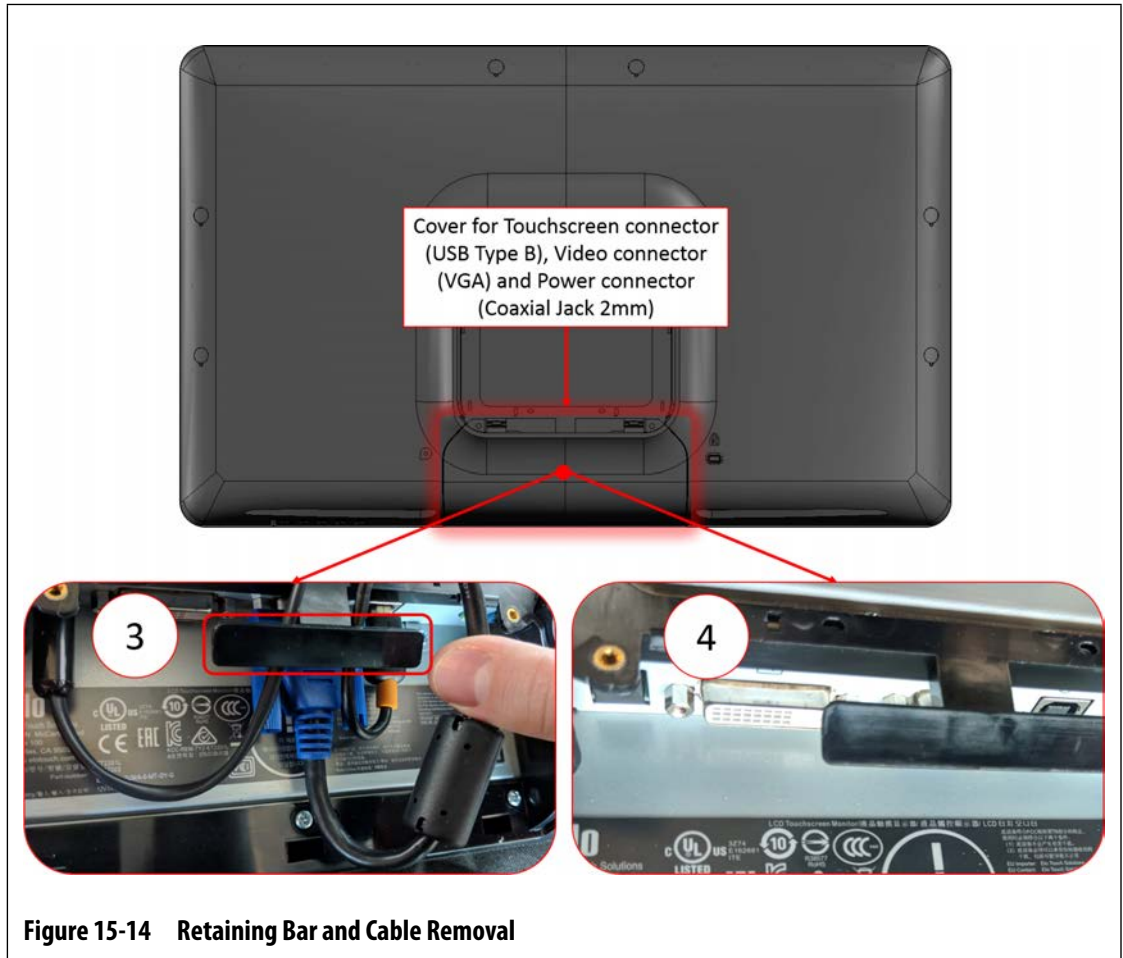

Figure 15-14 Retaining Bar and Cable Removal
6. Carefully move the cables associated with the Power, Video and Touchscreen connectors away from the retaining bar. Refer to number 3 in Figure 15-14.
7. After the cables are clear of the retaining bar, disconnect the Power, Video (this connector is held in by screws and may require a small slotted screwdriver for removal) and Touchscreen connectors. Refer to number 4 in Figure 15-14.